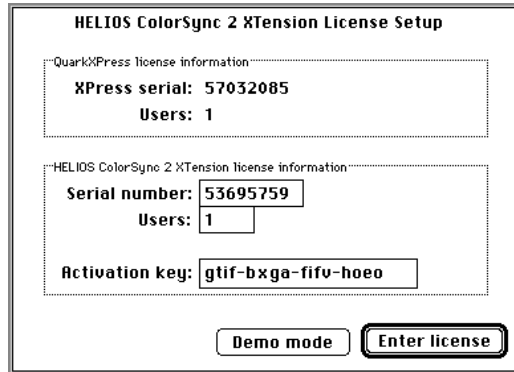

Fig. 9: The "License Setup" dialog
- Start your QuarkXPress application and enter your “Serial number”, the number of “Users”, and the “Activation key” in the “License Setup” dialog which will pop up automatically (see figure 9 below).